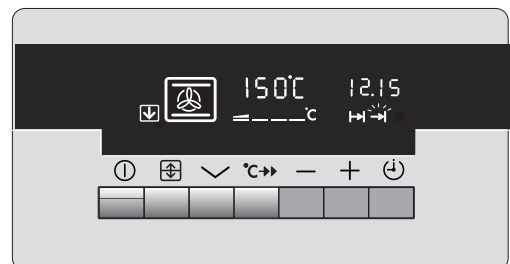

Fig.8.
- vi) To set the 'End Time'. Press the Time Selector button until the 'End Time' indicator neon flashes. Press the increase control button (+) until the required stop time is displayed, e.g. 12.15 p.m. as Fig. 8. If necessary depress the decrease control (-) until the correct time interval is achieved.